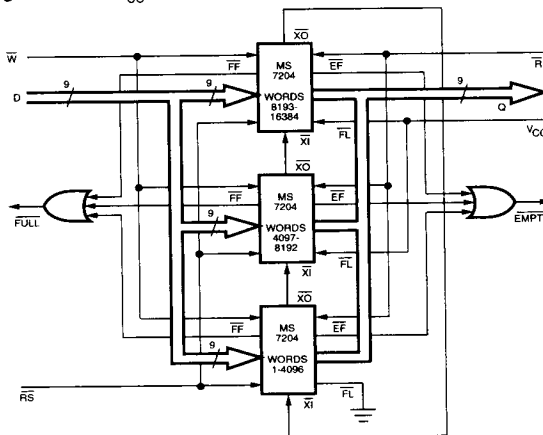

Figure 5. Diagram of a 16384 x 9 FIFO in Depth Expansion Mode
3. The EXPANSION OUT (\overline{XO}) pin of each device must be connected to the EXPANSION IN (\overline{XI}) pin of the next device as shown in Figure 5.